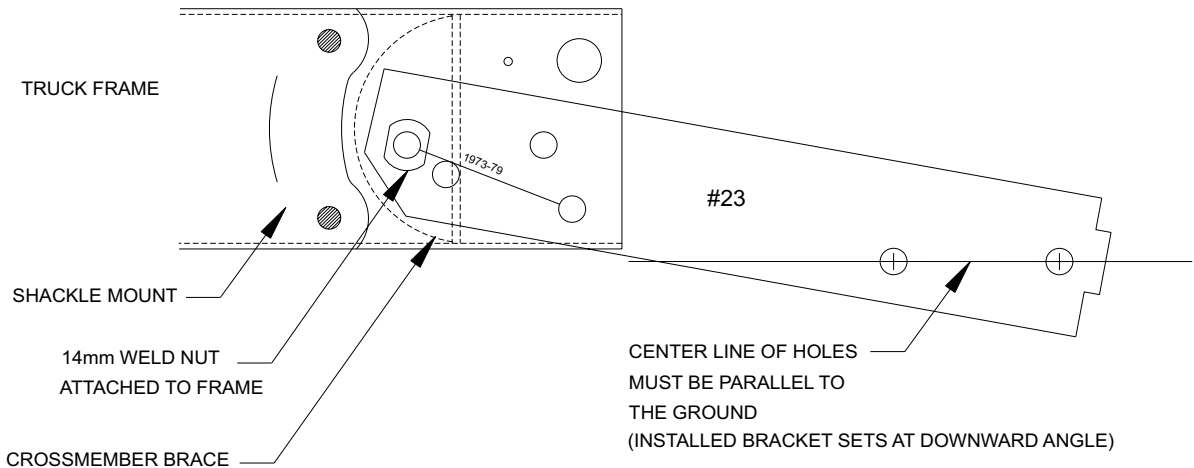

FIGURE 1B (driver side view)
STEP 1: Using 14mm hardware (yellow color coated), loosely install mounting brackets on the outside of truck frame rails with the offset inwards. The truck frame rails may have one 14mm weld nut attached to each frame rail. These weld nuts will be used for installing mounting brackets. (If equipped) If the 14mm weld nut is not present use the supplied 1/2" hardware. Refer to figure 1B. DO NOT TIGHTEN mounting hardware.